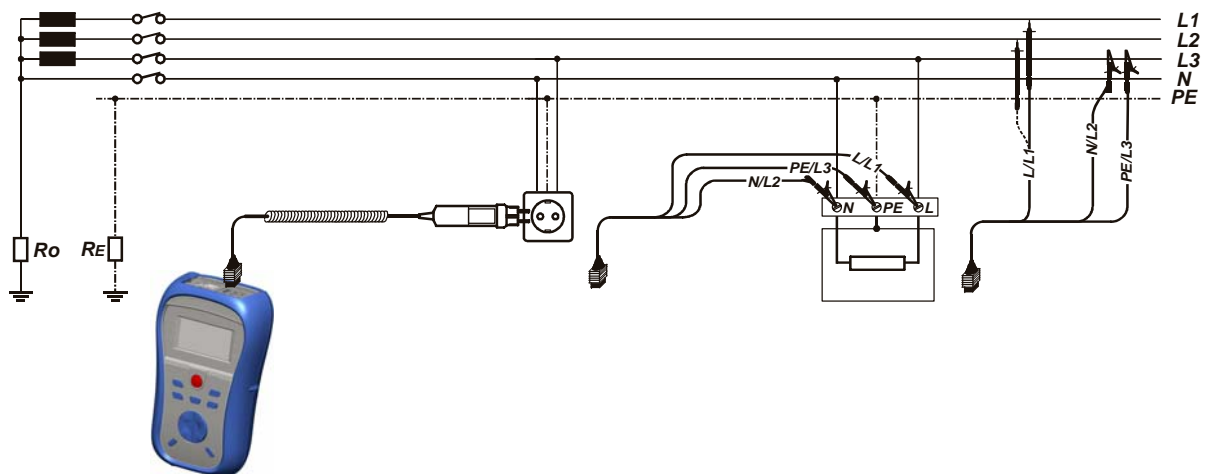

Figure 5.12: Phase-neutral or phase-phase line impedance measurement – connection of plug commander and universal test cable
- ❑ **Connect** test leads to the item to be tested (see figure 5.12).